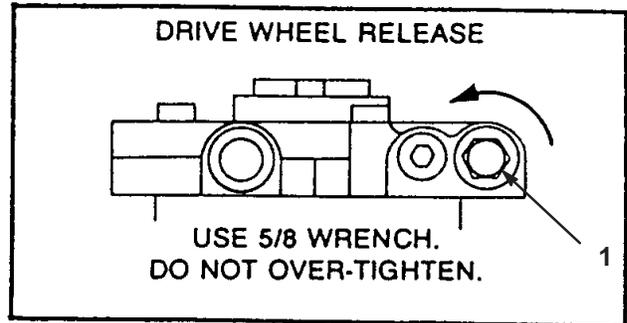

Figure 26
2. Rotate the by-pass valves counterclockwise 1 turn to push. This allows hydraulic fluid to by-pass the pump enabling the wheels to turn (Fig. 26).
1. Rotate the by-pass valves clockwise 1 turn to operate machine (Fig. 26).